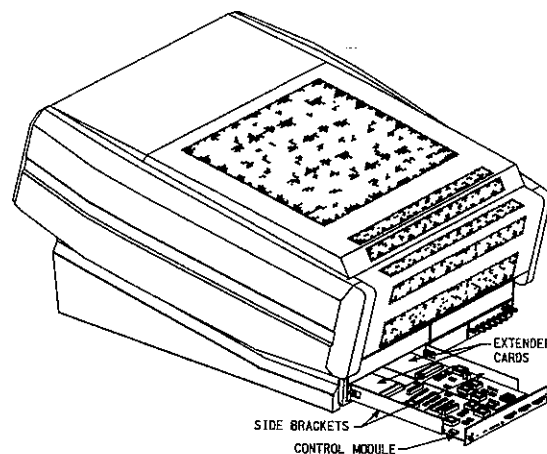

Figure 3-6. Control Module Extension
- c) Plug in two extender cards as shown in Figure 3-6. Extender card connectors may need to be notched like the Control Module connector in order to mate with the backplane motherboard.